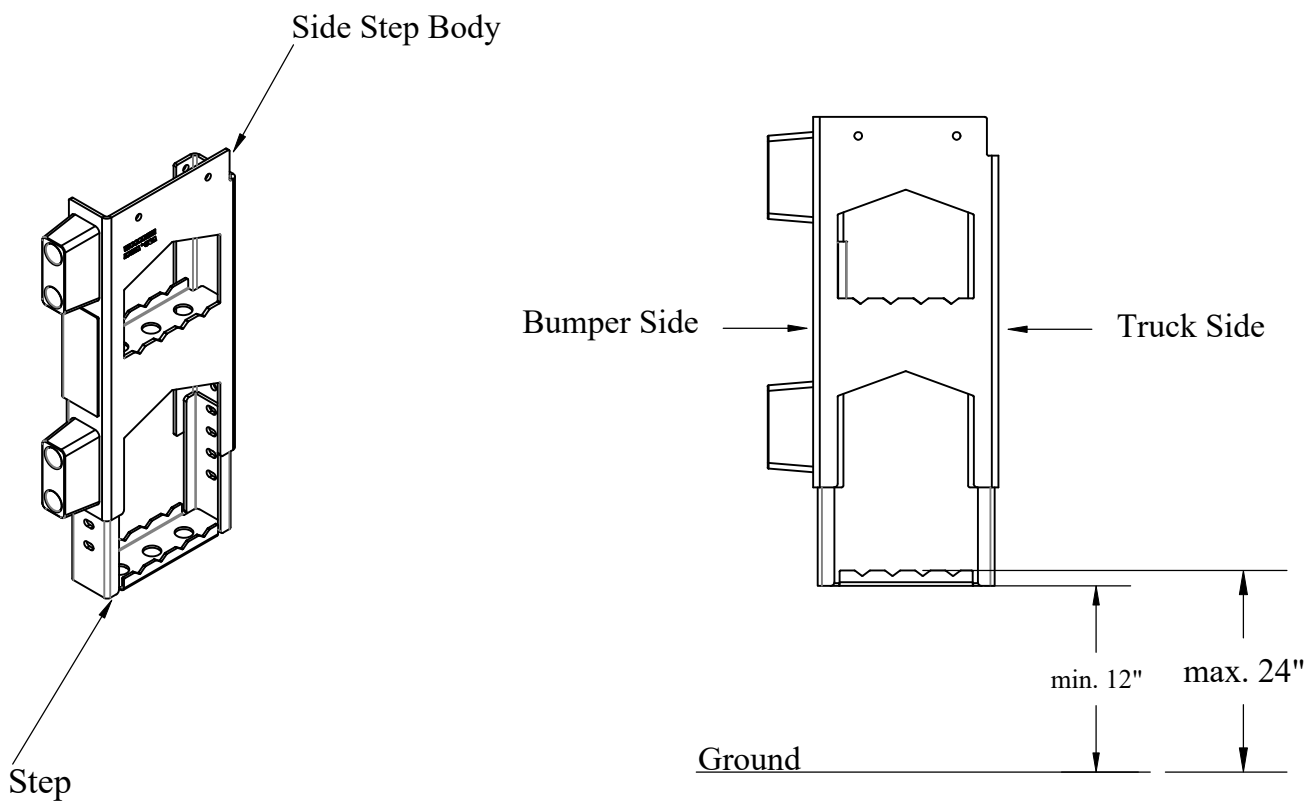

Figure 21: Side Steps Height Adjustment.
1. **Adjust** side step height to desired position (Figure 21).